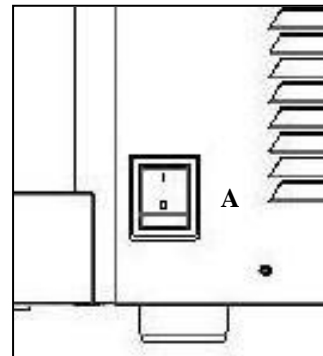

Fig. 24
- Activate the main switch A on the right side of the unit (fig. 24), the touch screen will start operating by showing the main menu and all the choice possibilities.